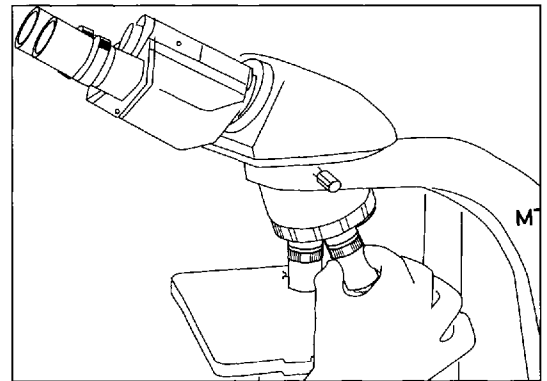

Figure 4
- Remove the objectives from their objective cases while being careful not to touch any part of the optics. Then, screw each objective into a nosepiece opening. Install them incrementally or in order of power (e.g. 4, 10, 40, and 100) as shown at right. (Fig.4)